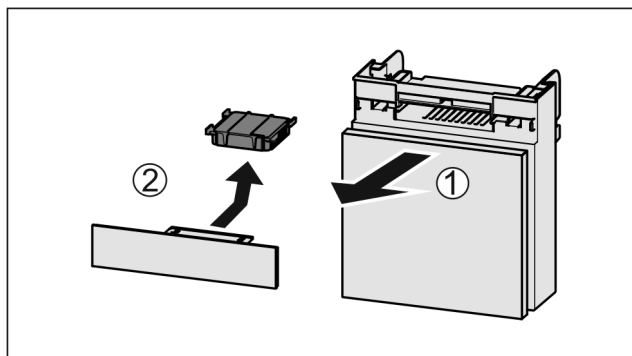

Fig. 113
- ▶ Pull out the compartment Fig. 113 (1).
- ▶ Remove the carbon filter Fig. 113 (2).